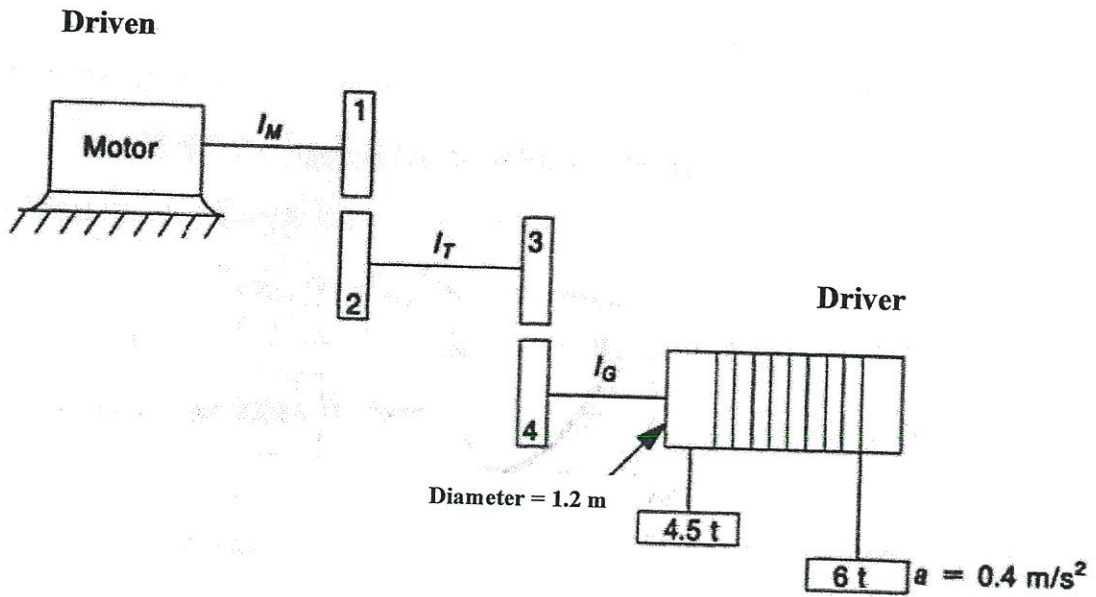

Figure Q4(b)
- (b) **Figure Q4(b)** shows a motor used to accelerate a hoist through two sets of gear reducing system. The moment of inertia for the motor shaft is  $7 \text{ kgm}^2$ , middle shaft is  $50 \text{ kgm}^2$  and hoist shaft is  $400 \text{ kgm}^2$ . The gear ratio for gear set 1 and 2 is  $1/3.5$  while for gear set 3 and 4 is  $1/4.5$ . Gear efficiency for both gear set is 95%. By neglecting the friction effect, determine the total torque required by the motor to accelerate the load of 6 tones at acceleration of  $0.4 \text{ m/s}^2$  upward. (16 marks)